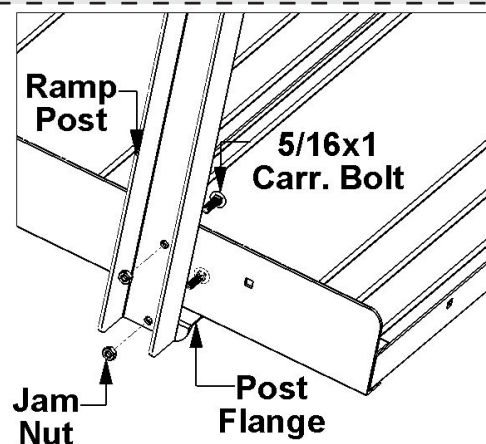

Fig.4.4
4.2 Ramp Post Attachment: Attach handrail after an entire ramp run has been spliced together. First, layout all ramp handrails along the sides of the ramp run. Starting with the shortest ramp section, attach the double post handrail assembly. Attach each post by aligning the bottom post hole to the post flange hole then run a carriage bolt through both holes and fasten with a jam nut. Next run a carriage bolt through the ramp frame and ramp post and fasten with a jam nut (Fig.4.4). *Note: to align top set of holes, complete post to flange attachment first then hold ramp post with one hand and apply downward pressure to run carriage bolt through with the other hand.*